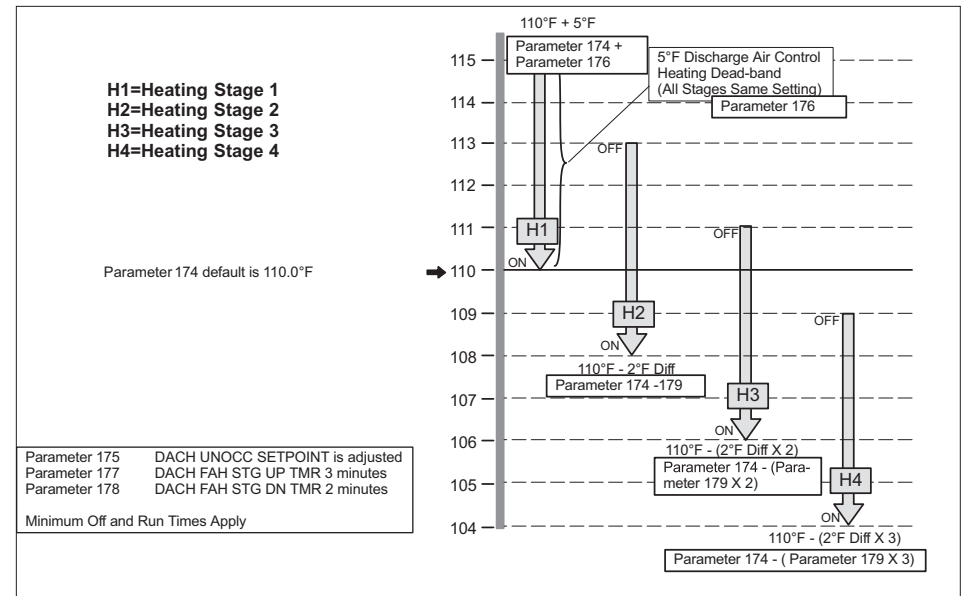

Figure 17. Discharge Air Control Heating Stages - Default Values Shown
- Refer to “Figure 17. Discharge Air Control Heating Stages - Default Values Shown” for Discharge Air Control Heating heating stages.